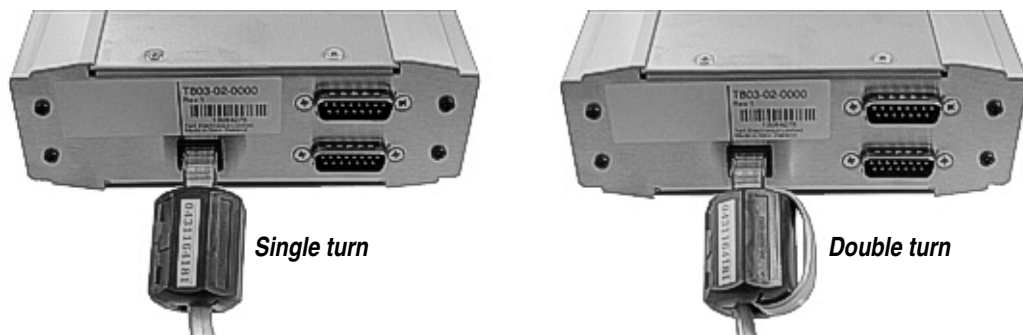

Figure 1.3 Single and double turn of line through filter
2. Only one turn of the 2-wire or 4-wire line is required through the ferrite. However, two turns are recommended (see Figure 1.3) as this provides extra immunity while also securing the ferrite in position.